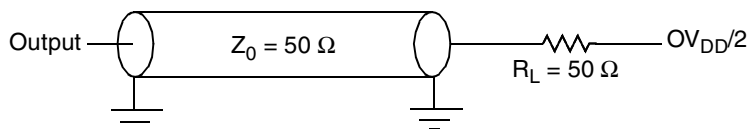

Figure 14. Local Bus C Test Load
Figure 14 provides the AC test load for the local bus.
1. All outputs are measured from the midpoint voltage of the falling/rising edge of t_{TCLK} to the midpoint of the signal in question. The output timings are measured at the pins. All output timings assume a purely resistive 50-Ω load (see Figure 14). Time-of-flight delays must be added for trace lengths, vias, and connectors in the system.
2. The symbols used for timing specifications follow the pattern of $t_{(first\ two\ letters\ of\ functional\ block)(signal)(state)(reference)(state)}$ for inputs and $t_{(first\ two\ letters\ of\ functional\ block)(reference)(state)(signal)(state)}$ for outputs. For example, $t_{JTDVKKH}$ symbolizes JTAG device timing (JT) with respect to the time data input signals (D) reaching the valid state (V) relative to the t_{JTG} clock reference (K) going to the high (H) state or setup time. Also, $t_{JTDXKKH}$ symbolizes JTAG timing (JT) with respect to the time data input signals (D) went invalid (X) relative to the t_{JTG} clock reference (K) going to the high (H) state. Note that, in general, the clock reference symbol representation is based on three letters representing the clock of a particular functional. For rise and fall times, the latter convention is used with the appropriate letter: R (rise) or F (fall).